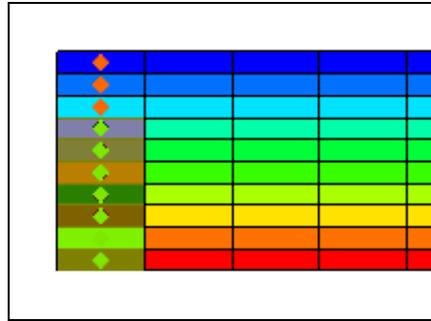

Figure 2 Select the bottom seven cells in the leftmost column
1. Using the **Select Cells**  tool, select the bottom seven cells in the leftmost column (Figure 2).